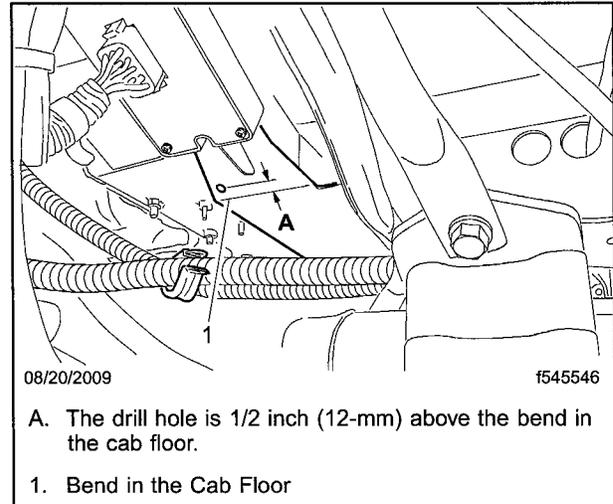

Fig. 6, P-Clamp Mounting Hole
16. Drill another 1/4-inch (6-mm) hole 1/2 inch (12-mm) above the bend where the cab floor begins to angle upward to the frontwall. See **Fig. 6**.